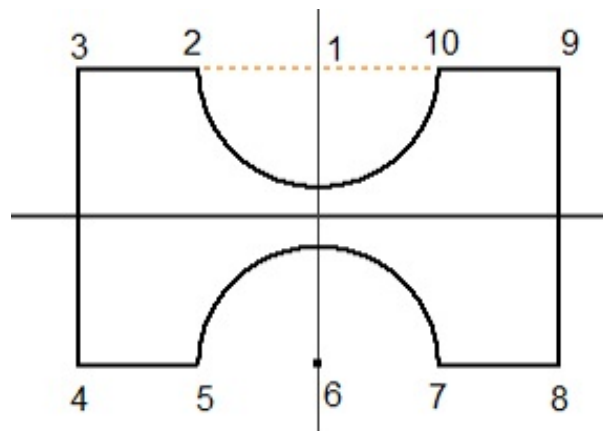

Figure 2-72 Sketch showing different points for Tutorial 3
7. Move the cursor toward left in the graphics window. Enter **12** in the length input field, press the TAB key, and then enter **180** in the angle input field in the Dynamic Input; the line between points 2 and 3 is created. Refer to Figure 2-72 for point numbers.
1. In Figure 2-72, the major and minor grid lines, and the triad have not been displayed for a better display of the sketch and the imaginary lines.